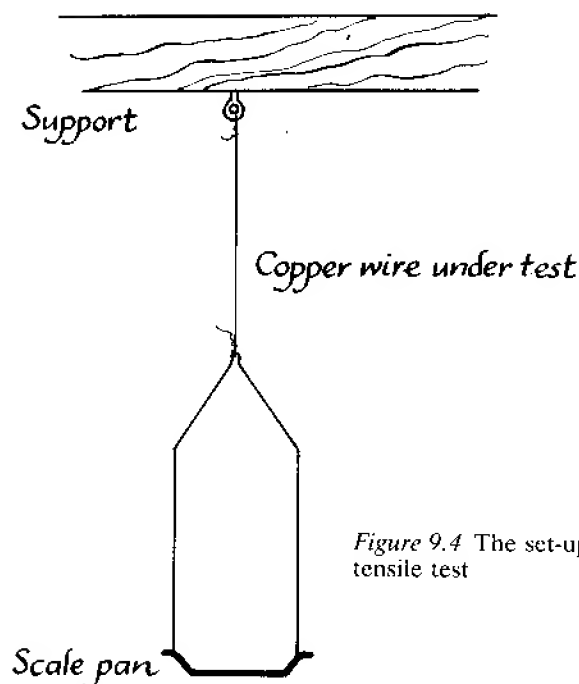

Figure 9.4 The set-up for a tensile test
1. Fix one end of a piece of thin copper wire to a support and suspend a light-weight scale pan from the other end as shown in Figure 9.4.